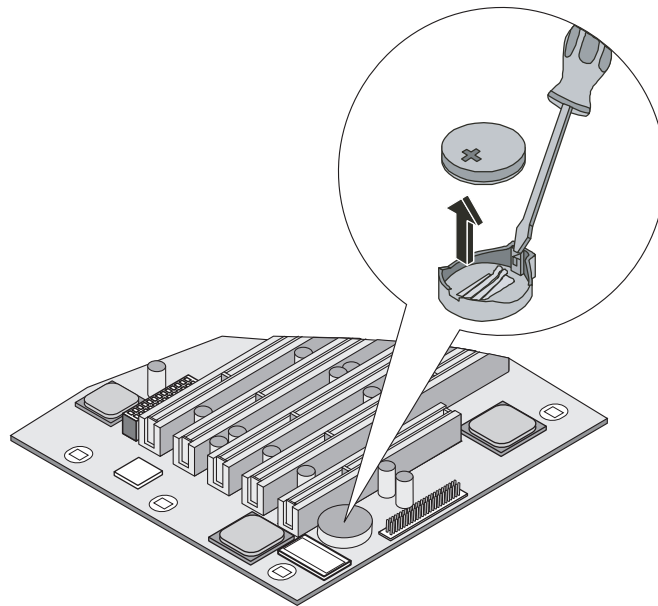

Figure 5-3: Replacing battery
5. Remove the existing battery. Refer to Figure 5-3.